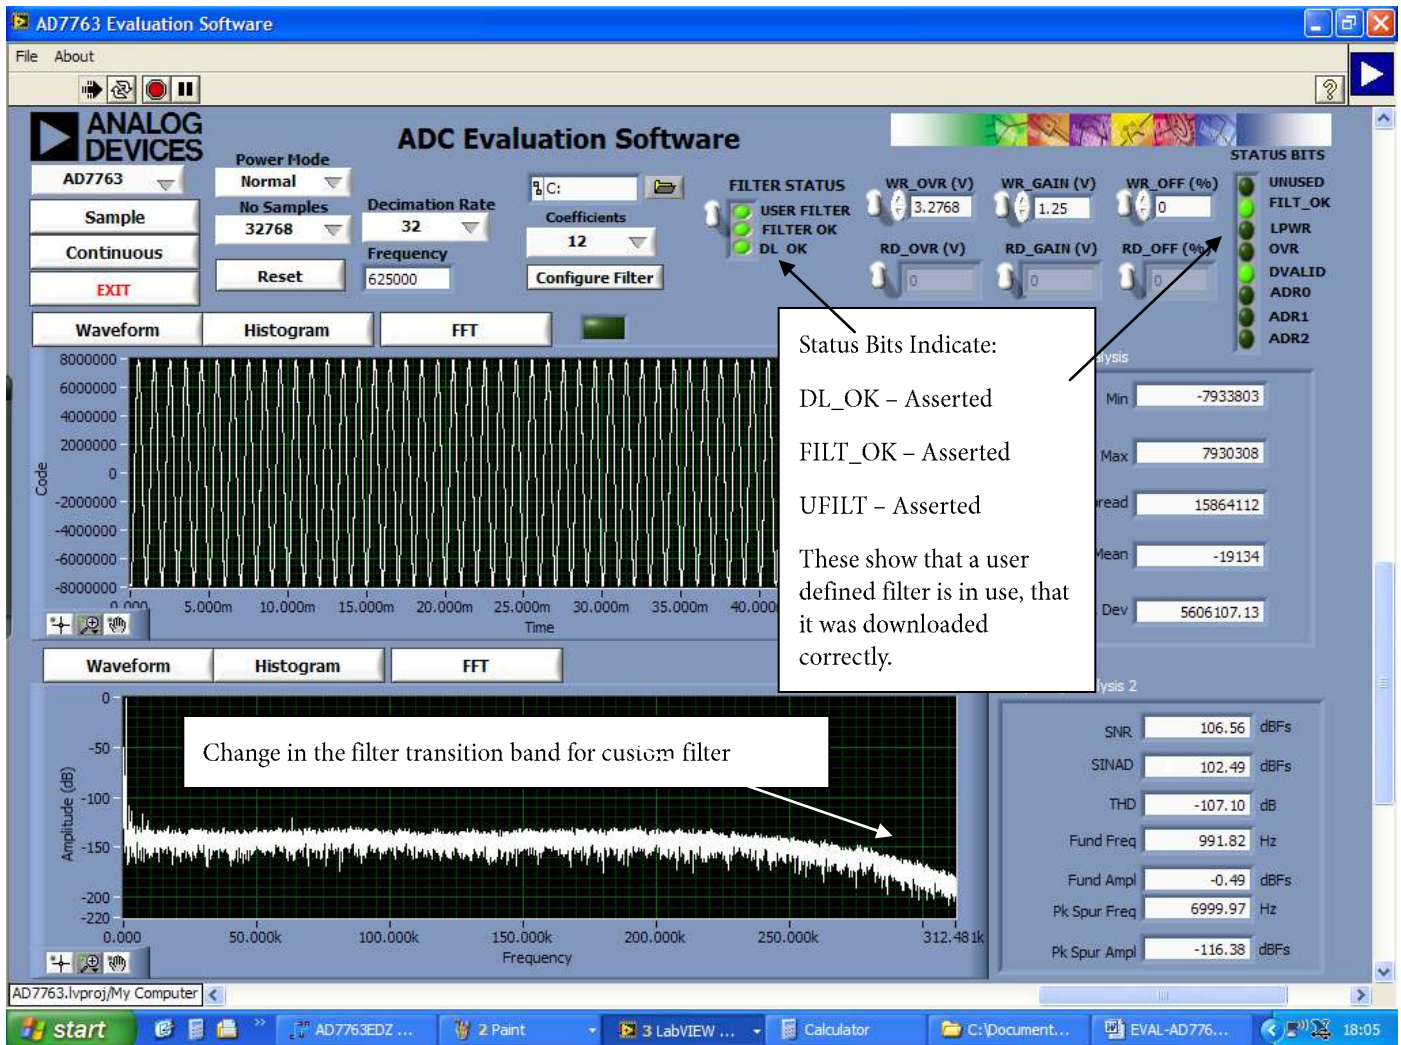

Figure 14. User-defined filter example – implemented on evaluation board. See indicators illuminated, and custom filter transition band.
- e) The filter example used in the AD7763datasheet will show a slower transition band. The FFT of this filter implementation is shown in Figure 14. As highlighted, the status bits output by the ADC will show if the filter file has been downloaded correctly. The indicators for the DL\_OK, FILT\_OK and UFLT are all asserted to show a successful filter download.